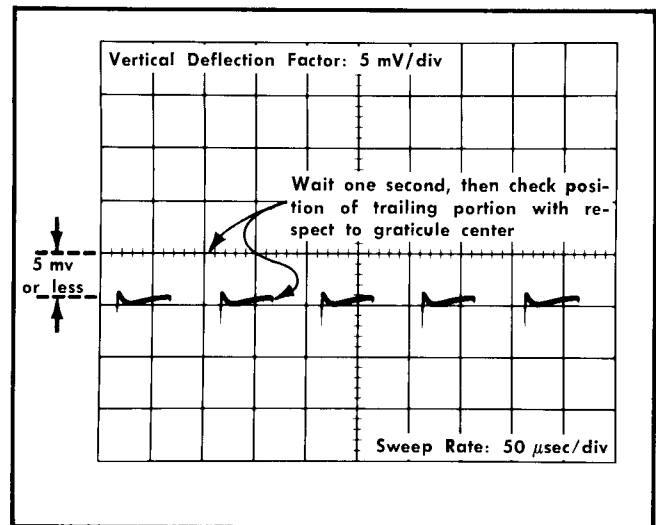

Fig. 5-26. Checking input A overdrive dc shift.
d. Set the input A AC-DC-GND switch to DC. Check the position of the display. The trailing portion of each cycle should be within 5 mV (1 div) or less with respect to graticule center one second after the switch was set to DC (see Fig. 5-26).